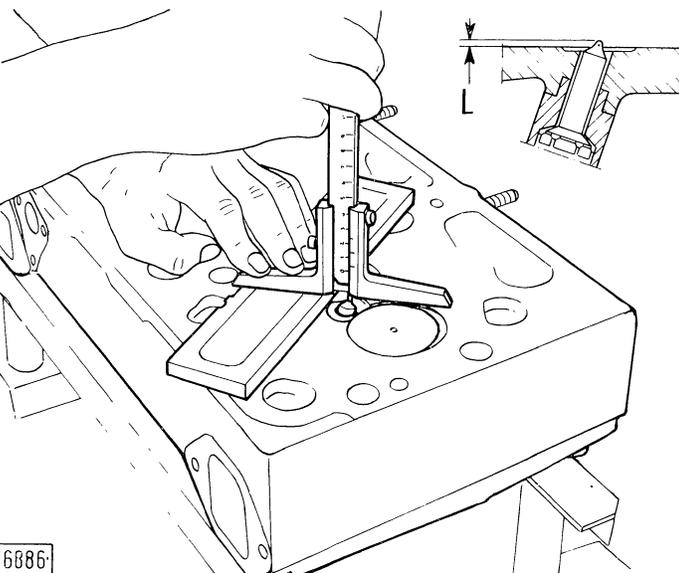

Fig. 12 - Checking Fuel Injector Protrusion
— Fuel injector protrusion (L) is as shown in Fig. 12.